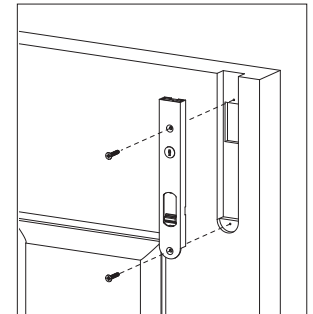

Figure 5.
4.2. Install screws and tighten screws manually with a screwdriver. (Figure 5).